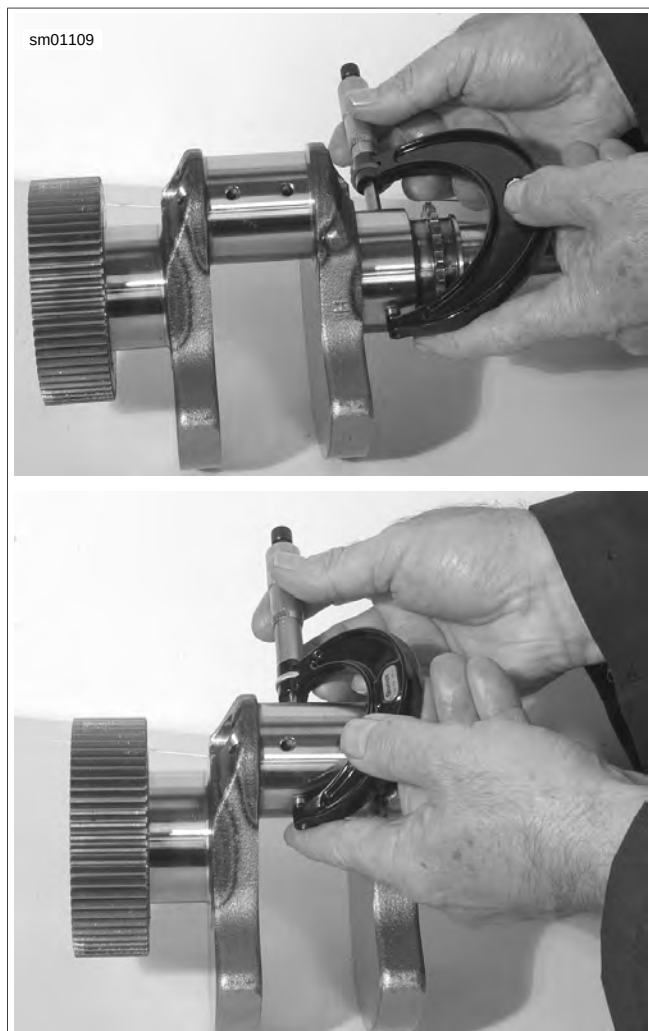

Figure 3-105. Measure Journal
10. See Figure 3-105. Measure bearing journals. For bearing selection, refer to Table 3-12 and Table 3-13 for specifications.